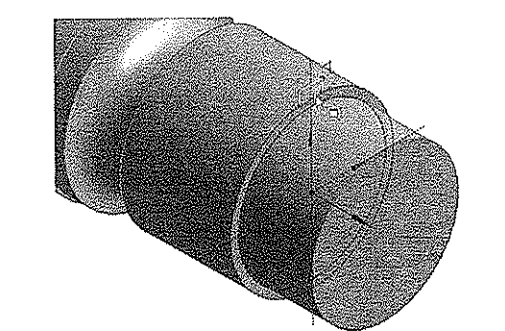

Figure 5-67 The sketch selected for creating a pattern around the circular edge
9. Next, select the sketch drawn for the extruded feature, as shown in Figure 5-67.